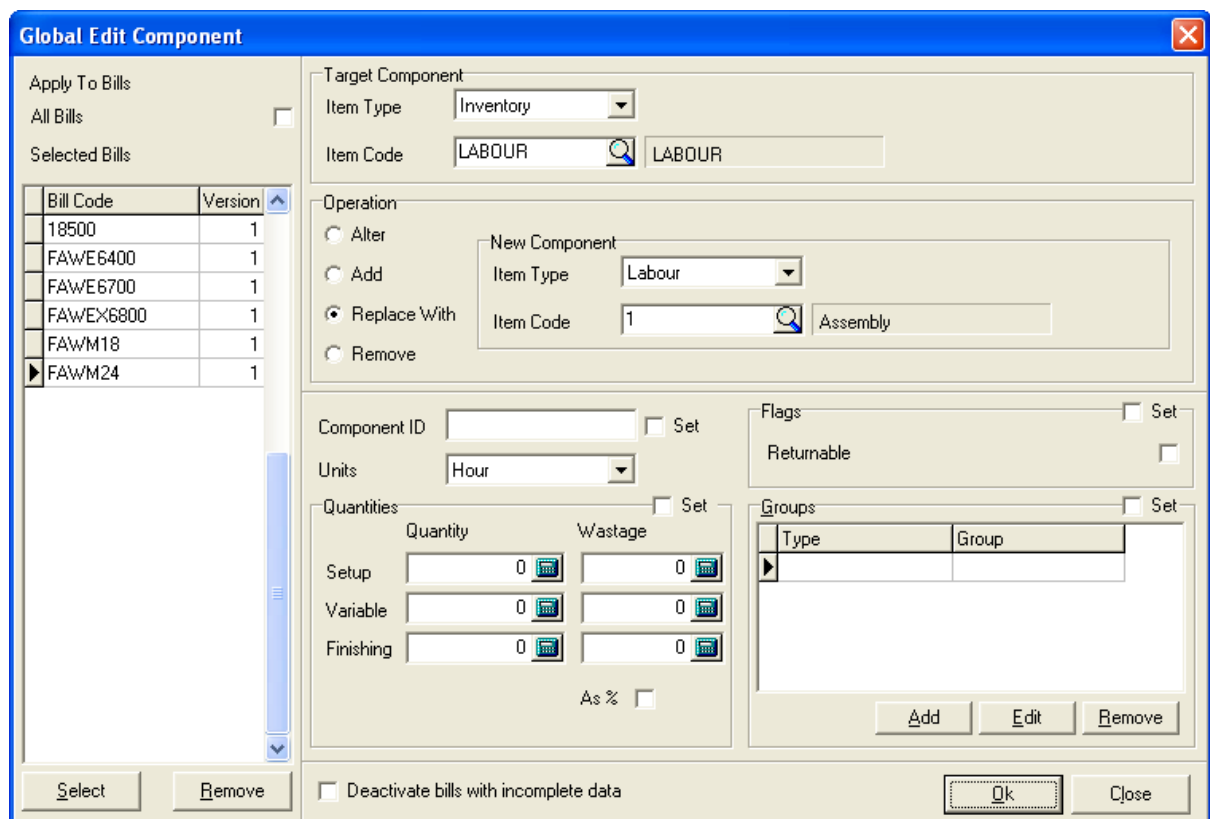

figure 5
3. Set the criteria to alter, add, replace with, or remove. Fig 5